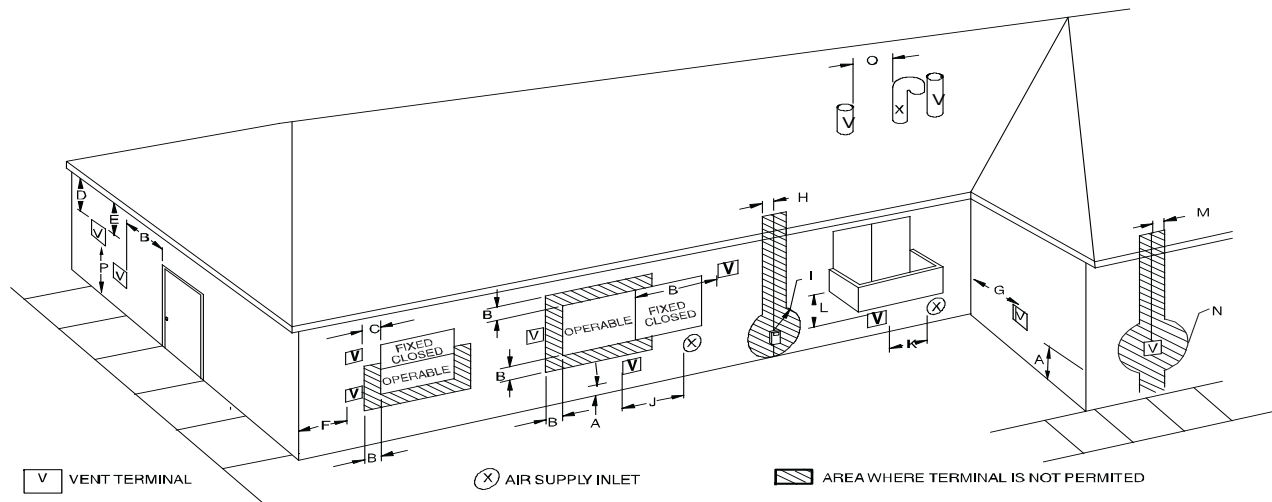
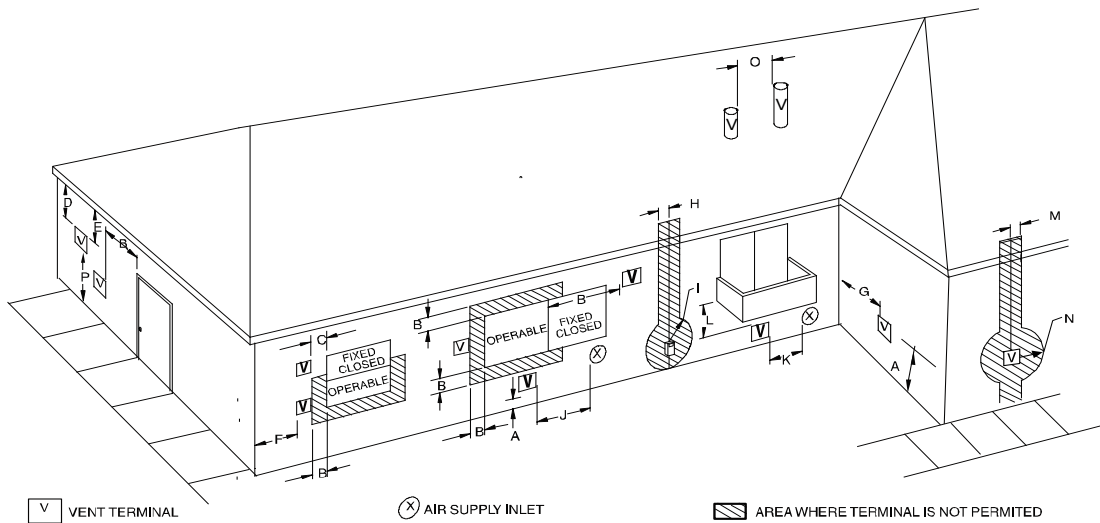
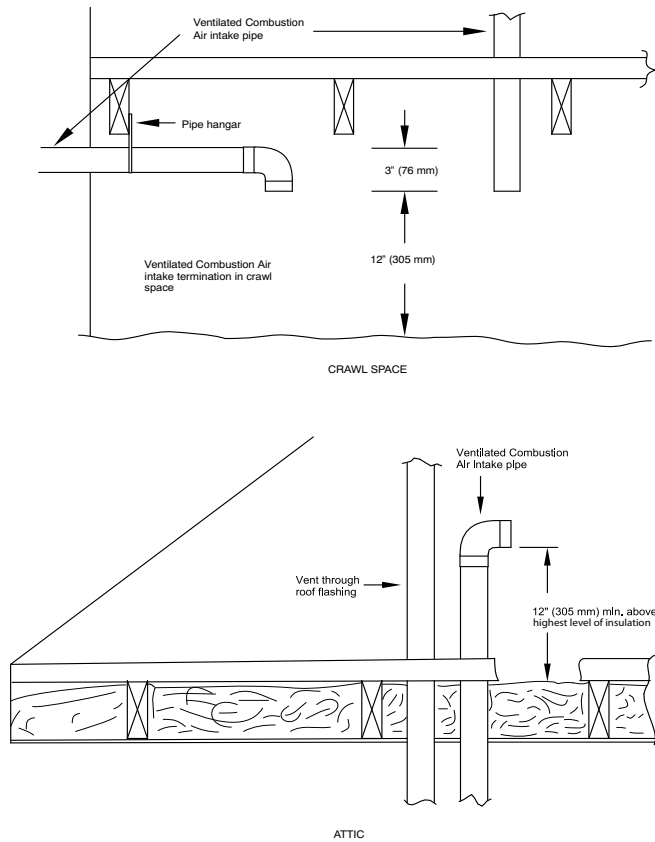

Fig. 43 – Direct Vent Termination Clearance
Fig. 44 – Ventilated Combustion Air and Non-Direct Vent Termination Clearance
Fig. 47 – Vent Terminations for Ventilated Combustion Air ^{A10497}
In a direct-vent (2-pipe) system, all air for combustion is taken directly from outdoor atmosphere, and all flue products are discharged to outdoor atmosphere. Combustion-air and vent pipes must terminate together in the same atmospheric pressure zone, either through the roof (preferred) or a sidewall. See Fig. 43 for references to clearances required by National code authorities.
In a ventilated combustion air option, the vent terminates and discharges the flue products directly to the outdoors similar to a direct vent system. See Fig. 44 for references to clearances required by National code authorities.
In a non direct-vent (1-pipe) system, all air for combustion is taken from the area adjacent to furnace, and all flue products are discharged to outdoor atmosphere. Air for combustion must be supplied as described in the Air For Combustion and Ventilation Section. Do not use an abandoned chimney to supply outside air to the furnace. See Fig. 44 for references to vent clearances required by National code authorities.
For vent termination clearance, references to National codes are shown in Fig. 43 for Direct Vent/2-Pipe system and Fig. 44 for Ventilated Combustion Air/Non-direct Vent/1-Pipe system. For exterior termination arrangements, refer to Fig. 40 for Direct Vent/2-Pipe system and Fig. 41 for Ventilated Combustion Air/Non-Direct/1-Pipe system. Contact Local code authorities for other requirements to and/or exemptions from the National codes shown in the figures.
1. Comply with all clearance requirements stated in Fig. 43 or Fig. 44 per application.
Direct vent (2-pipe) vent and combustion air pipes must terminate outside the structure. See Fig. 43 For references to vent clearances required by National code authorities. Allowable vent and combustion air terminations are shown in Fig. 40.
The vent pipe for a Non Direct Vent (1-pipe) system must terminate outdoors. See Fig. 44 for references to vent clearances required by National Code authorities. Allowable vent terminations are shown in Fig. 41.
The vent pipe for a Ventilated Combustion Air System must terminate outdoors. See Fig. 44 for references to vent clearances required by National code authorities. Allowable vent terminations are shown in Fig. 41. The combustion air pipe terminates in a well-ventilated attic or crawl space. Follow the clearances as shown in Fig. 47.